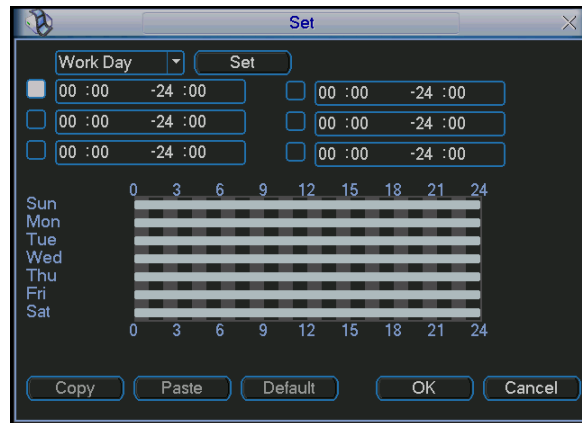
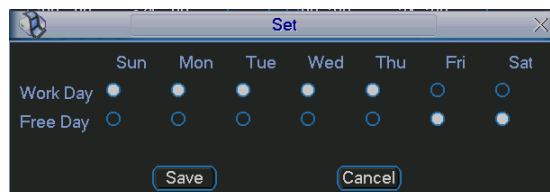

Figure 6-59
Figure 6-60
- Period: Click set button, you can see an interface is shown as in Figure 6-59. Here you can set for business day and non-business day. In Figure 6-59 click set button, you can see an interface is shown as in Figure 6-60. Here you can set your own setup for business day and non-business day.